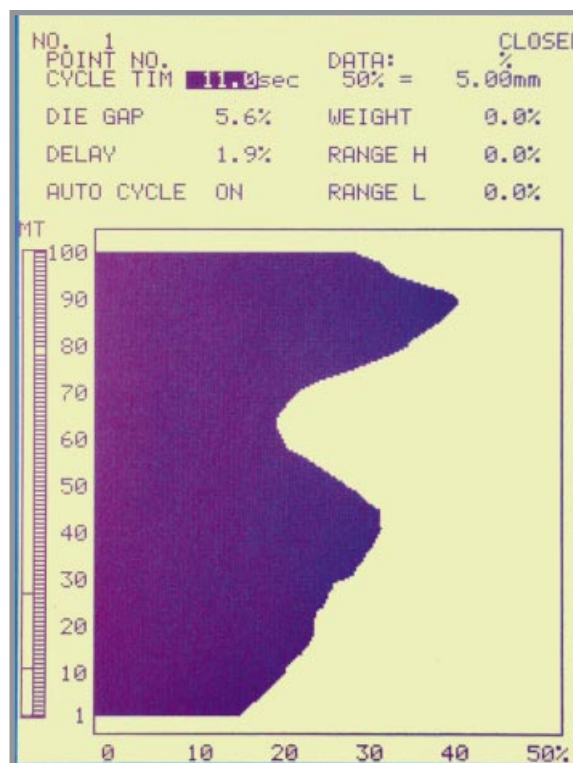

Figure 9-2 LCD Display
Selection of the individual Function Items is done by the **Cursor**. In Figure 9-2 - LCD Display, the value of the Item **Shot Size**, 11.0 sec, is highlighted and therefore **Shot Size** is selected. Turning the **Entry Knob** will increase (CW) or decrease (CCW) the **Shot Size** value. To make this **Shot Size** change permanent, **Set** must be pressed. If